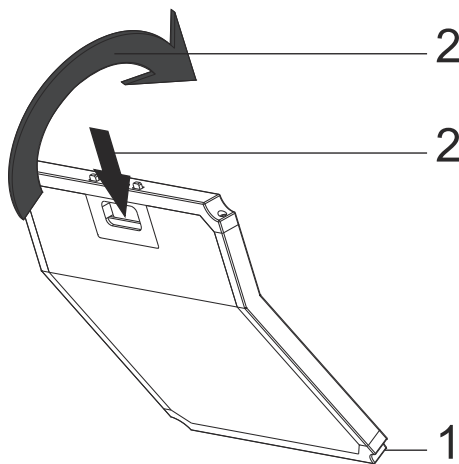

Fig. 5: AF500 CARBON FILTER
- 1-Place the lower part of the carbon filter in the motor cabin.Fig. 5
- 2-Press and push forward the tab of the carbon filter and snap the carbon filter tabs in their housing.Fig. 5